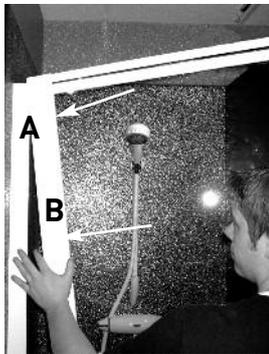

Figure a5
⑤ Remove the red blocks in between the glass door and the Pivot Door main frame. Assess the access required, decide left or right hand opening and ensure that the Pivot Door (B) opens outwards. Slide the Pivot Door following the arrows (**Figure a5**) into either Wall Profile channel (A) that is screw fixed to the wall. If you have selected a glass design it will be positioned to the outside of this product.